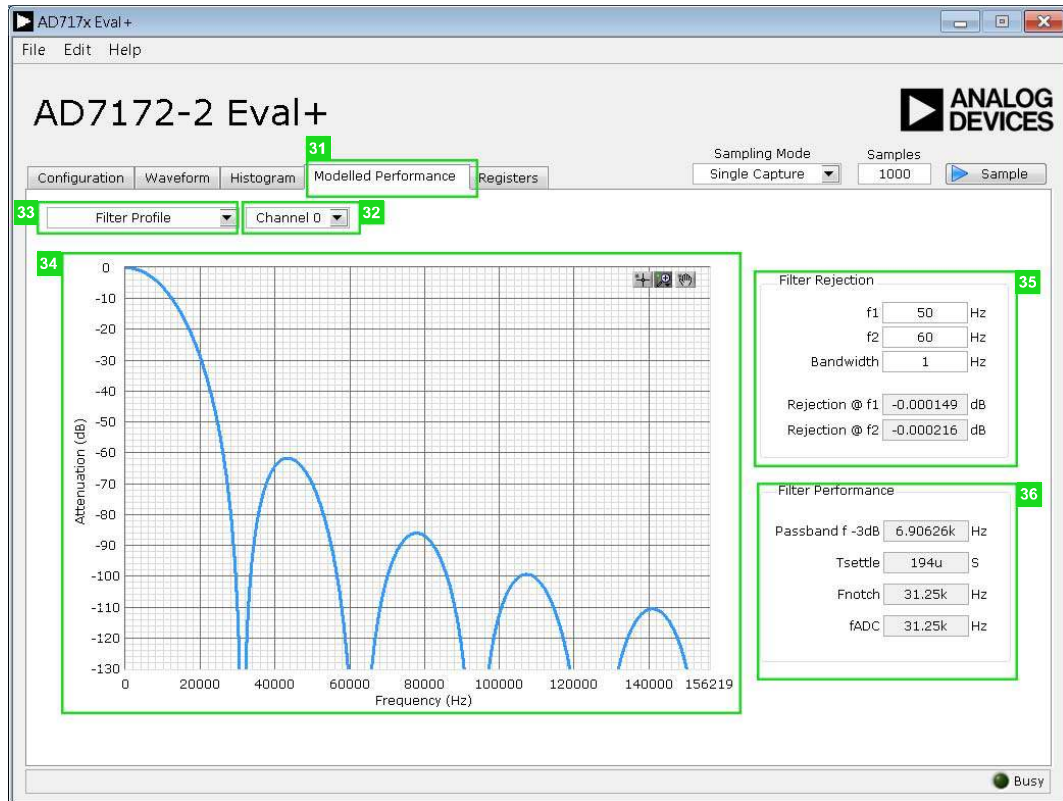

Figure 20. Filter Profiles of the AD717x Eval+ Software
There are three main options in the **Modelled Performance** tab: **Filter Profile**, **Filter Step Response**, and **Timing Diagram/Power**. These options can be selected from the dropdown list (33). Figure 20 shows this tab when **Filter Profile** is selected.